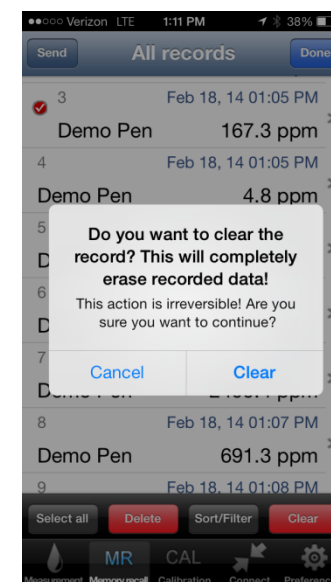

Figure 26
2. A Dialogue box will open (see Figure 26) stating: